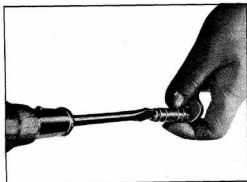

Fig. EF-36
- (1) Remove Main Air jet (MAJ).
- (2) Pull Jet block out.
- (3) Remove Main jet (MJ) in a manner as illustrated in Fig. EF-36, with screw driver, supporting the head with 10 mm open end wrench.